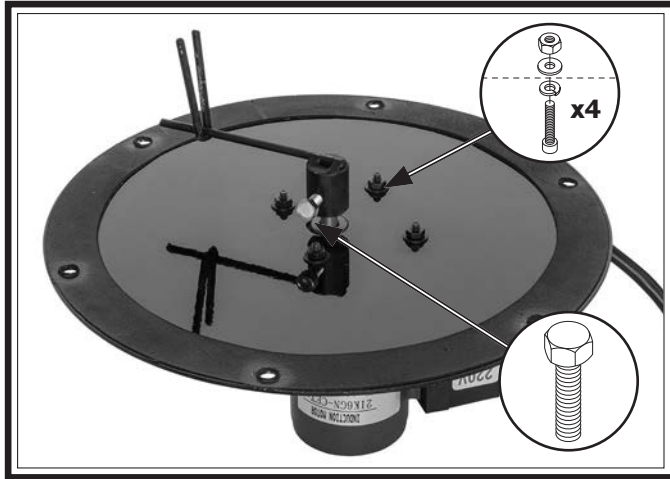

**Figure 18.** Collector attached to outlet tube and canister support.
11. While an assistant holds collector, insert square gasket between collector and outlet tube, then secure collector to outlet tube with (8)  $\frac{5}{16}$ "-18 x  $\frac{1}{2}$ " flange bolts (see **Figure 18**).
12. Attach canister support to collector with (2)  $\frac{5}{16}$ "-18 x  $\frac{3}{4}$ " flange bolts (see **Figure 18**).